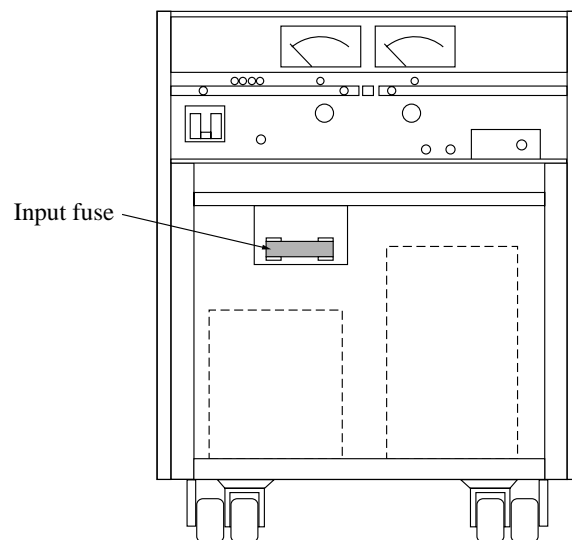

Fig. 6-15 Replacing an input fuse for the TYPE IV model
2. Remove the input fuse from the fuse holder and replace with a new fuse. See Fig. 6-15.